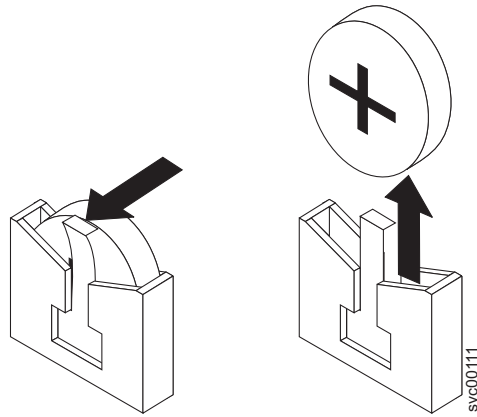

Figure 97. CMOS battery holder
- a. Use one finger to pull the retainer tab that secures the battery to its housing. See Figure 97 on page 315.